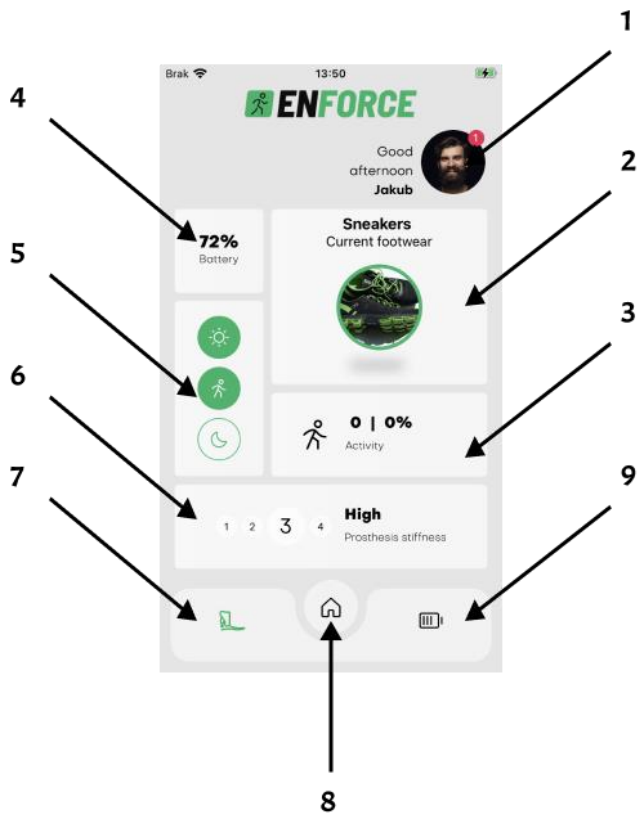
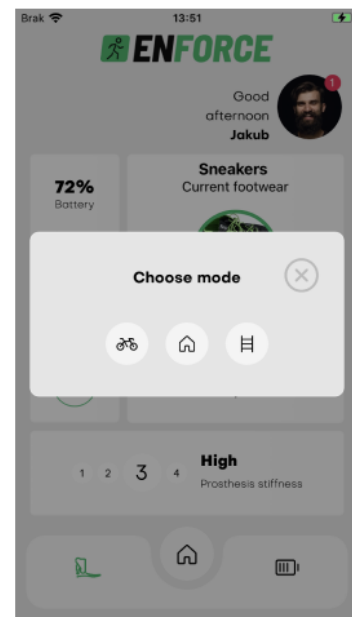

Figure 15: Main Screen.
Figure 16: Changing prosthesis mode.
The default operating mode of the prosthesis is walking mode. To go to the mode management panel, click the icon (5) in Figure 15. Then change the mode by clicking on the appropriate icon - bicycle, home or ladder mode (Figure 16). The currently selected option is highlighted in green. Changing to the default walking mode is possible by clicking again on the active mode (marked in green) - when no mode (bicycle, home or ladder) is highlighted in color, the prosthesis works in the default walking mode.